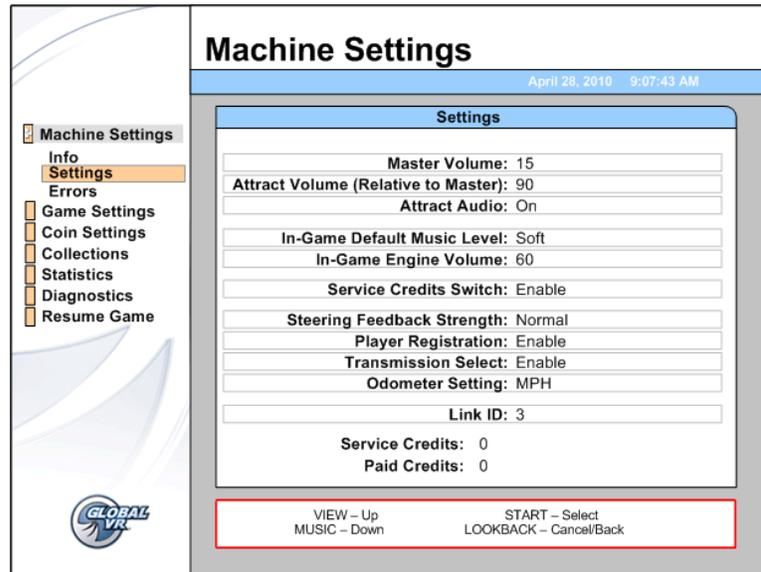

Figure 11. Machine Settings Menu
6. Some menu items, such as volume levels (see Figure 11 on page 19) use sliders to set numeric values. A slider, as shown below, will appear when you highlight the item and press **START**. To set the slider, press the **VIEW** and **↓** buttons to increase or decrease the value, and then press **START** again to save the selected value.